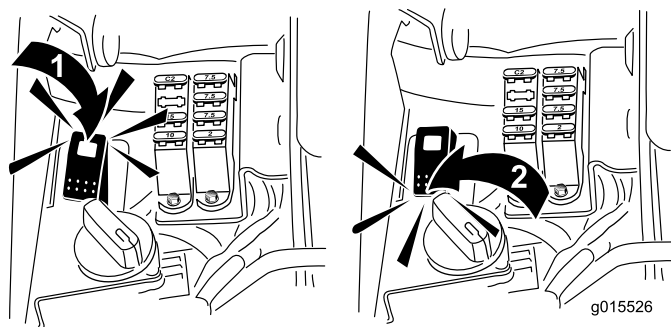

Figure 53
5. Rotate the Backlap Switch to the reverse (R) position (Figure 53).